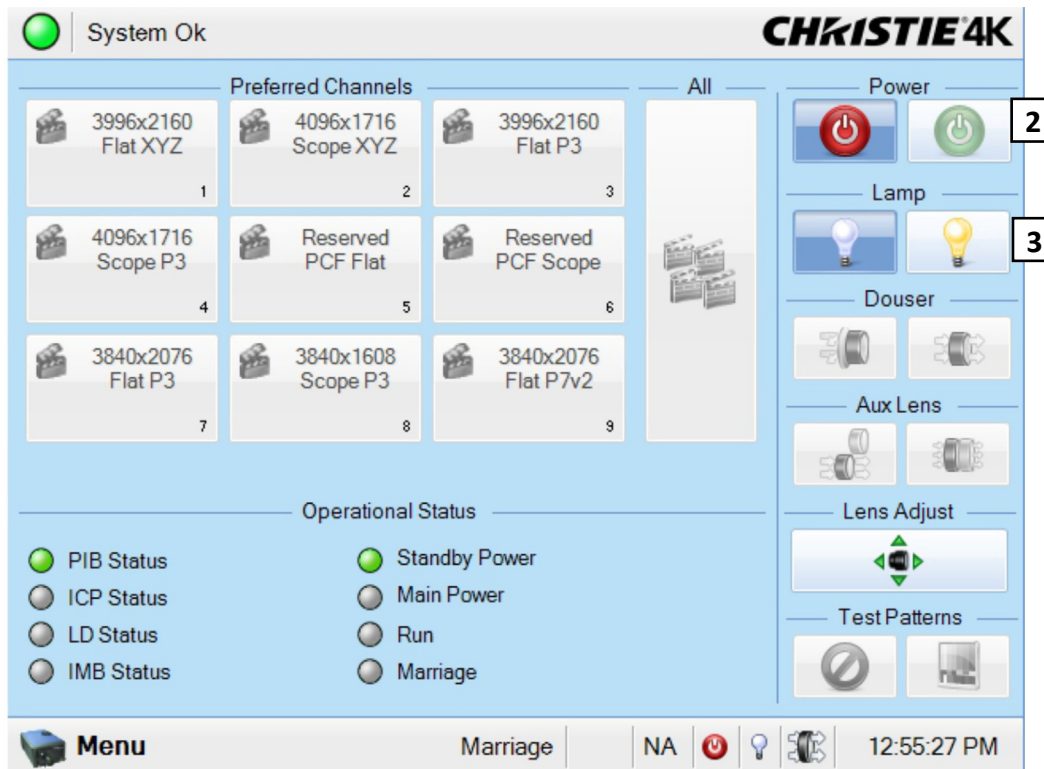

Figure 3-65 Steps to Turn the Lamp ON
3. On the TPC, click and hold the **LAMP ON** button for 1/4 second to ignite the lamp. (Figure 3-65).